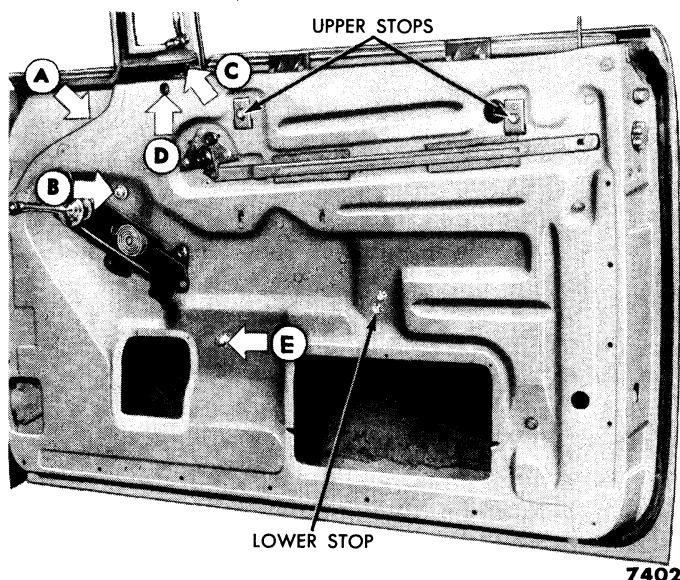

Fig. 20—Vent and Glass Travel Adjustments—Convertible and Victoria
(3) **DOOR GLASS TRAVEL ADJUSTMENTS.** The up and down travel of the door glass is controlled by stop plates located on the door inner panel. Elongated holes permit up and down movement (fig. 20). To establish the correct height of the door glass travel, loosen the screw at each upper stop. Adjust the stop in the elongated hole so that the top edge of the glass does not extend beyond the ventilator assembly. To limit the downward travel of the door glass, loosen the screws at the lower stop (fig. 20). Adjust the stop in the elongated holes so that the top edge of the door glass is even with the top edge of the door.